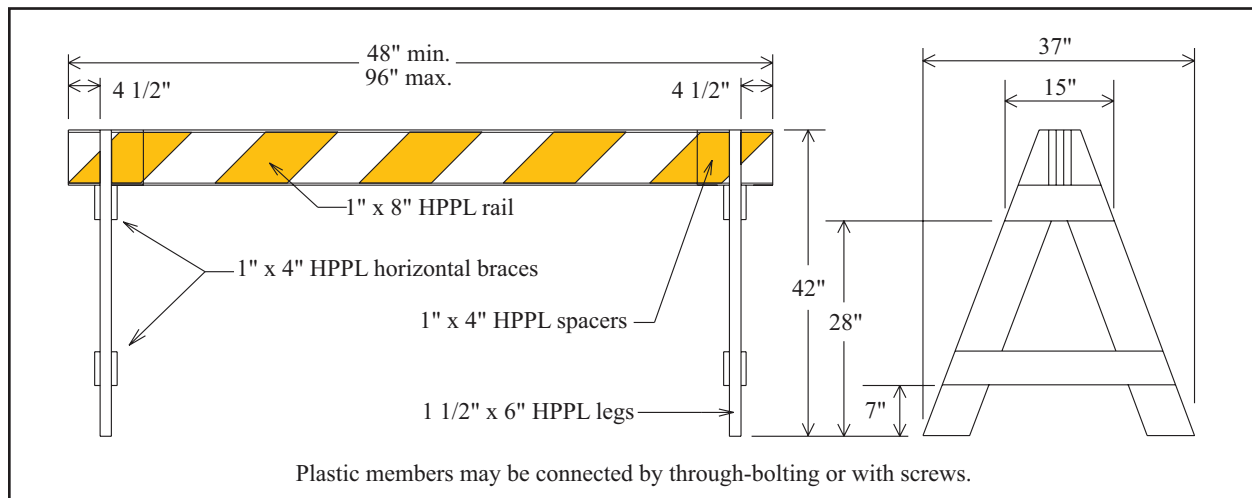

Figure C-3. Generic HPPL A-frame Type-I Barricade
- ❖ Hollow-profile plastic lumber (HPPL), 1 x 8 rail, 2 x 6 legs, and 1 x 4 braces (Figure C-3). This barricade shall be a minimum of 36 inches and a maximum of 42 inches tall. The rail may vary from 4 to 8 feet in length.